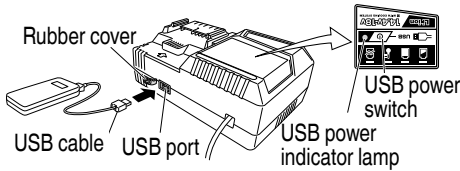

Fig. 8
- Turn the USB power switch ON (Fig. 8)
- Connect the USB cable. (Fig. 8)
- Turn the USB power switch OFF and unplug the power cord from the electrical outlet. (Fig. 8)